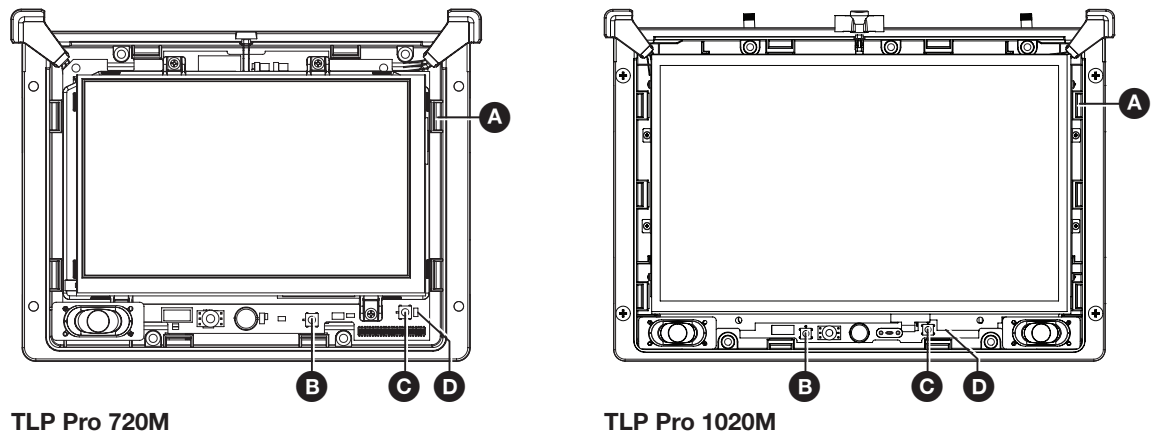
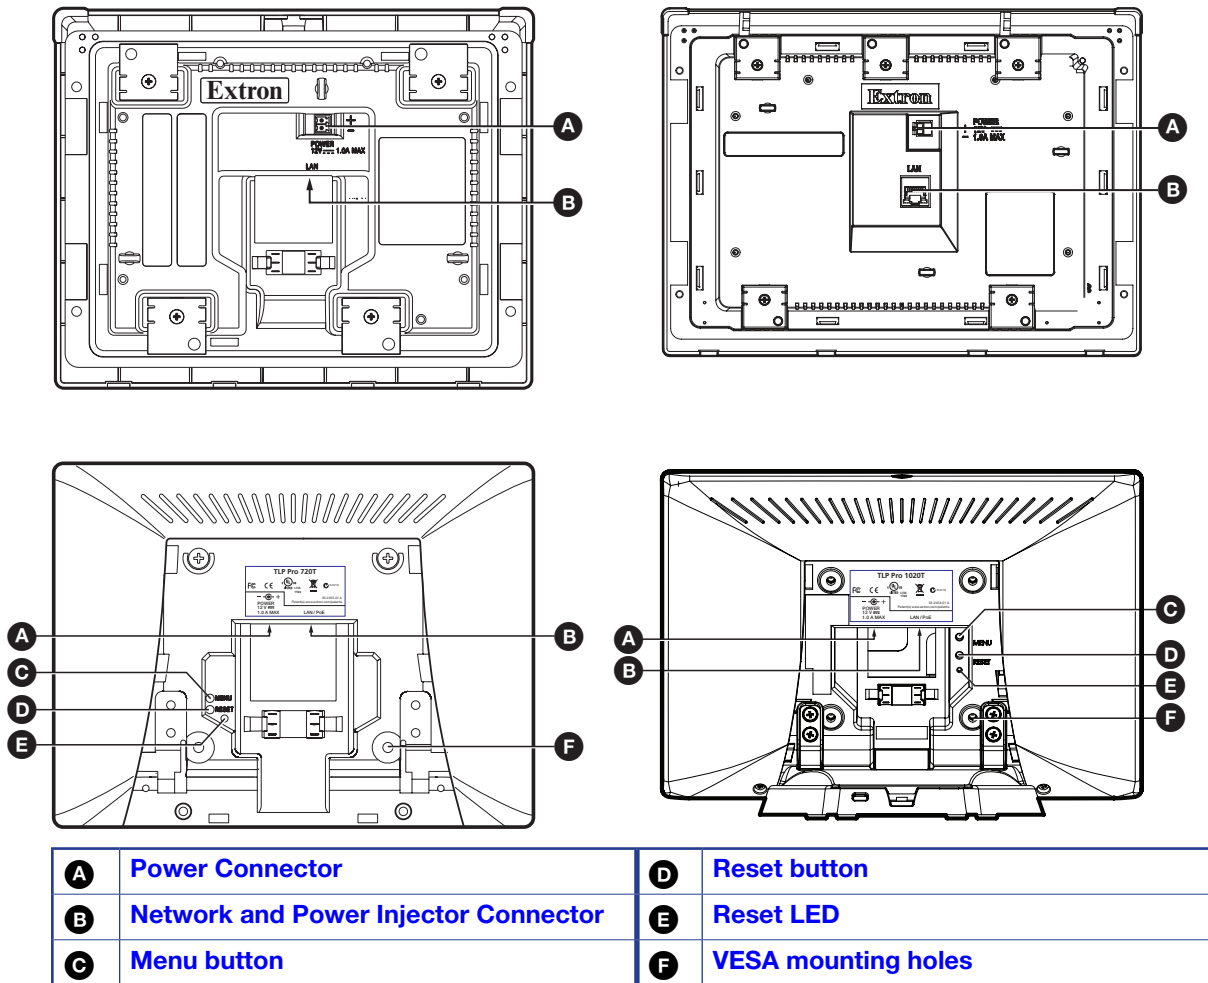

Figure 4. TLP Pro 720M and TLP Pro 1020M Front Panel with Bezel Removed
Figure 5. TLP Pro 720 Series and TLP Pro 1020 Series Rear Panels
- A Power connector** (see figure 5, on the previous page) — power supplies must be purchased separately.
- B Network and Power Injector Connector** (see figure 5)— is on the right side of the recessed area.
- Ⓒ **Menu button** (see figure 5)— activates the setup menu (see the following page) and Calibration screen (see page 20).
- Ⓓ **Reset button** (see figure 5)— initiates one of three reset modes for the unit (see Reset Modes on page 33).
- Ⓔ **Reset LED** (see figure 5)— indicates power status and reset status of the device (see Reset Modes on page 33).
- Ⓕ **VESA mounting holes (4)** (see figure 5)— for use with the Extron LPVM-1 (see VESA Mounting on page 30).
To open the setup menu, press the **Menu** button. For the TLP Pro 720T and TLP Pro 1020T, the **Menu** button is located on the rear panel (see figure 5, C on page 9). For the TLP Pro 720M and TLP Pro 1020M, the **Menu** button is located on the front panel and the bezel must be removed first (see figure 4, B on page 8).